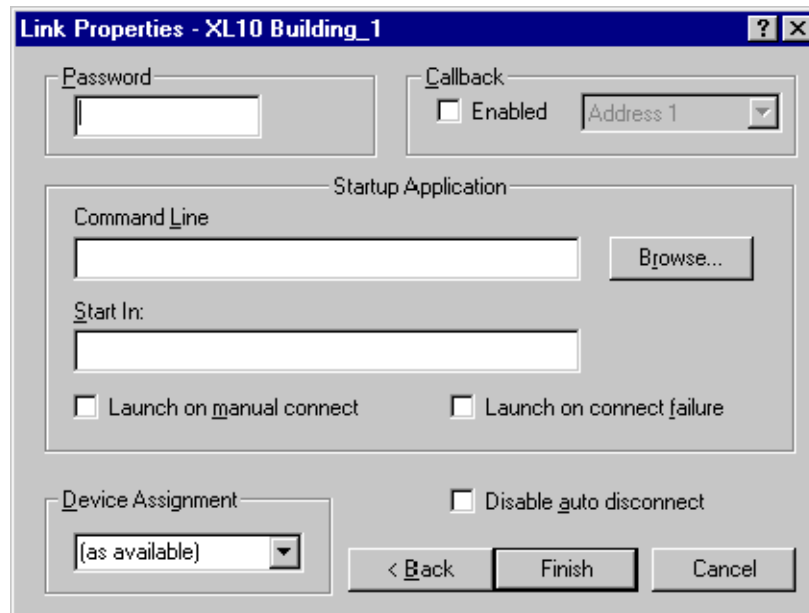

Fig. 7. Link Properties Screen.
8. No entry is required in the Link Properties screen. (See Fig. 7).